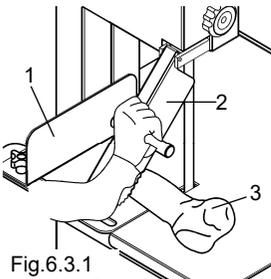

Fig.6.3.1
6.3 - Using the saw (Fig. 6.3.1)